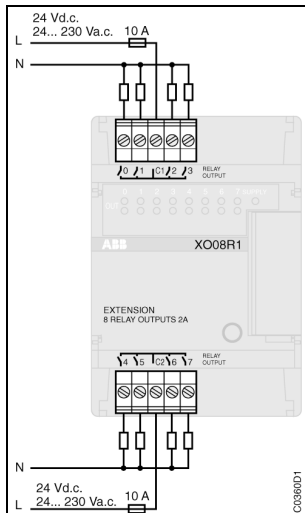

Figure 4-22 : Extension XO 08 R1
3.2. Extension XO 08 R1 (see Figure 4-22)